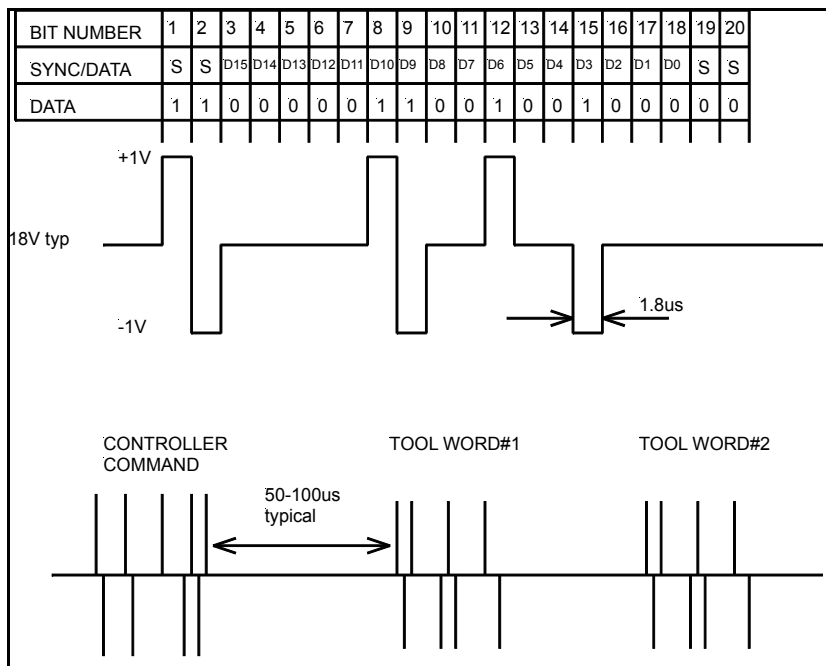

Figure 6.1 Ultrawire™ Signal Shape example
- 5 Check upper and lower O-ring (item 27, 07407) is fitted.
- 7 Check all fixings for tightness. Check 3 grub screws (item 4, 10504) are tight.
- 5 With an oscilloscope, check line telemetry from tool for +1V and -1V, 2 μ s pulses. Make sure to check tool pulses, not those from the controller which occur first, See Figure 6.1.